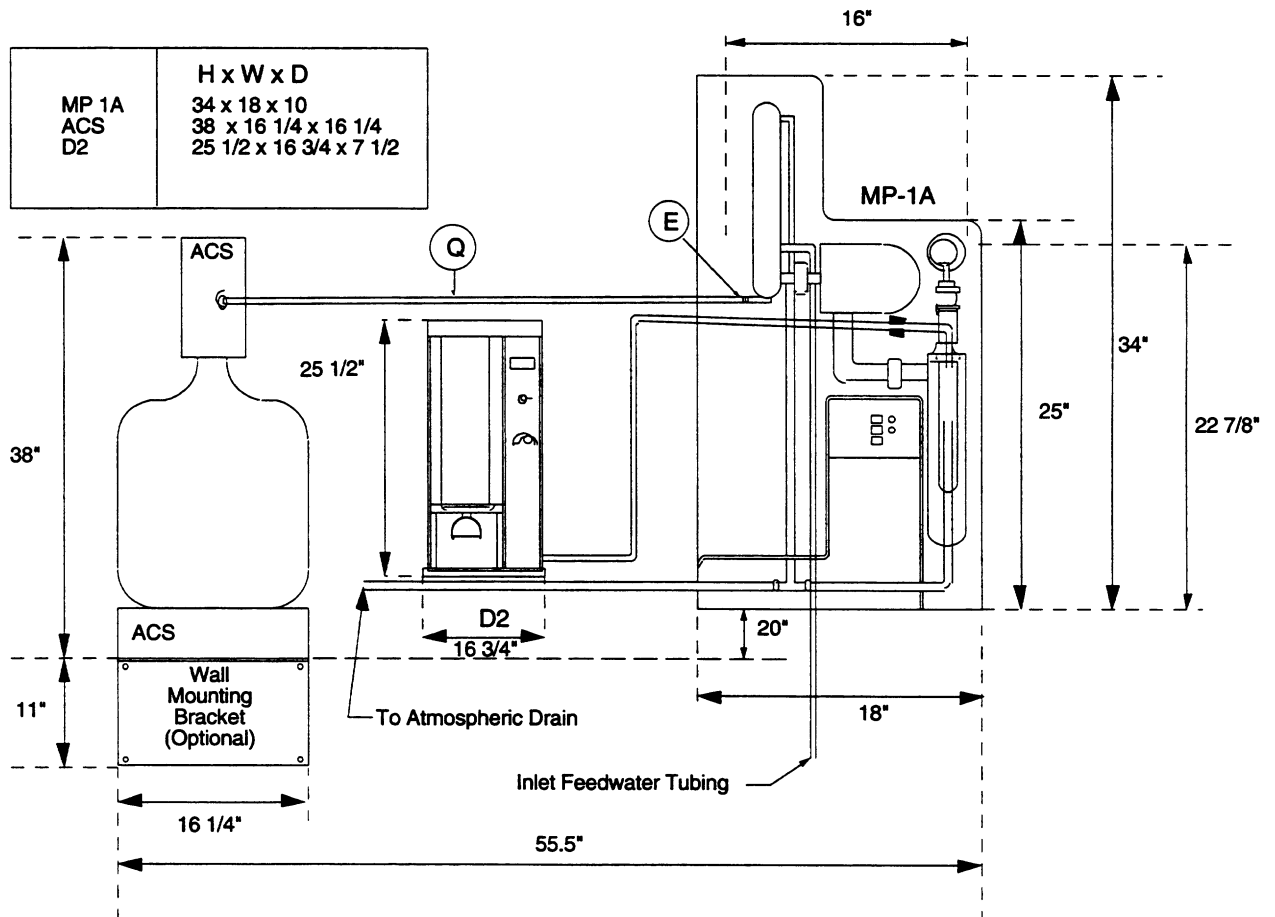

Figure 11 Complete System Layout (Not to scale)
1. Locate ACS tube "Q" and Teflon connector "E" in the ACS parts box. Locate distillate outlet tube (TU798X1) in the still parts box. Assemble to tubing from collection system as shown in Figure 11.